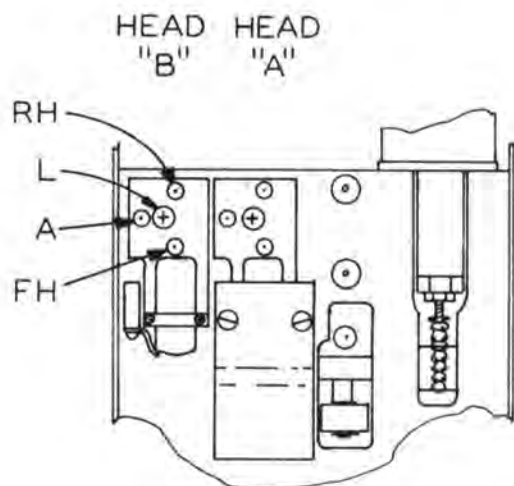
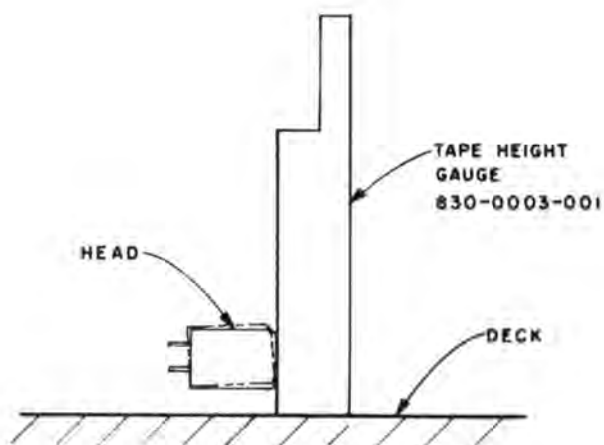

FIGURE 4-8
FIGURE 4-9
2. Height Adjustment: See Figure 4-8 for the location of the adjustment screws mentioned below.
- a. Loosen the lock screw (L) by turning it counter clockwise approximately four complete turns.
- b. Coarse height - adjust the front height screw (FH) until the top of the upper head track (pole piece) is $9/16$ of an inch above the deck surface.
- c. Coarse zenith - adjust the front height screw (FH) until the face of the head is perpendicular with the surface of the deck. Rest one edge of a metal rule (or any gauge known to be square) on the deck surface and move it against the face of the head. When perpendicularity has been achieved, no space will be visible between the face of the head and the "square". (See Figure 4-9.)
- b. Meter the output of the Reproducer and adjust azimuth screw A of the reproducing head for maximum output level. (See Figure 4-8.)
- d. Meter the output of the reproducer and adjust azimuth screw A of head B, the recording head, for maximum playback output level while recording the 15 kHz tone (see Figure 4-8).